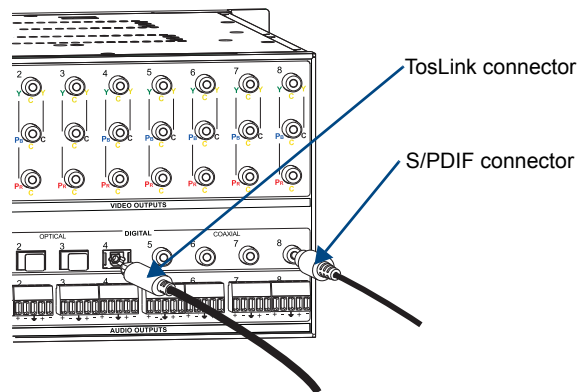

FIG. 16 Insert plugs into jacks
2. Insert TosLink plugs into the TosLink digital audio jacks (FIG. 16).
1. Insert S/PDIF plugs into the S/PDIF digital audio jacks (FIG. 16).